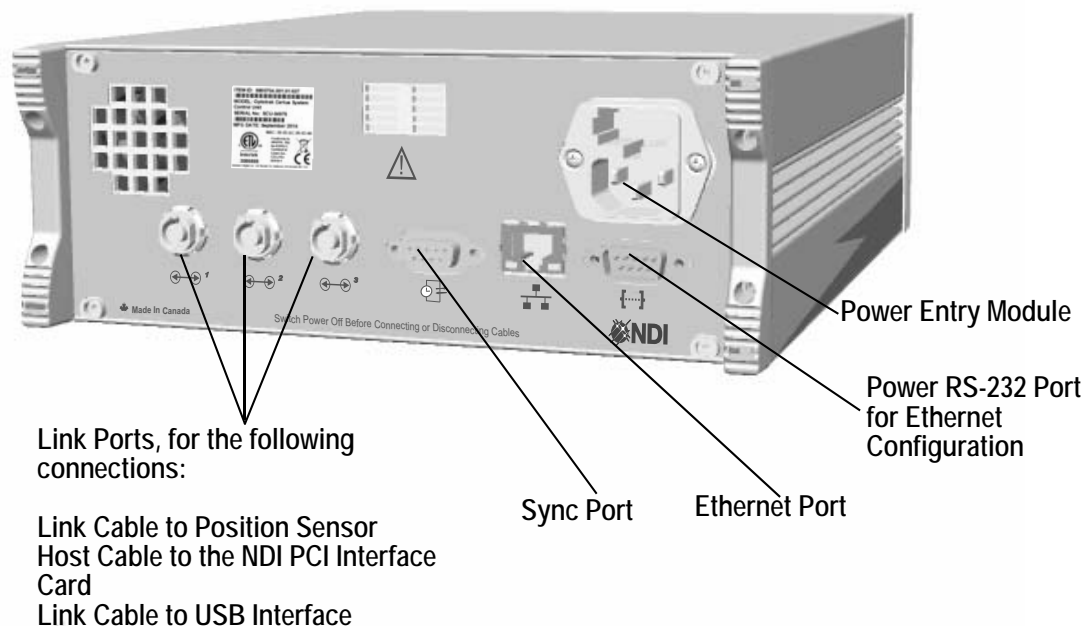

Figure 3-3 Cable Connections to the System Control Unit
2. Connect the following cables to the SCU, as shown in Figure 3-3: